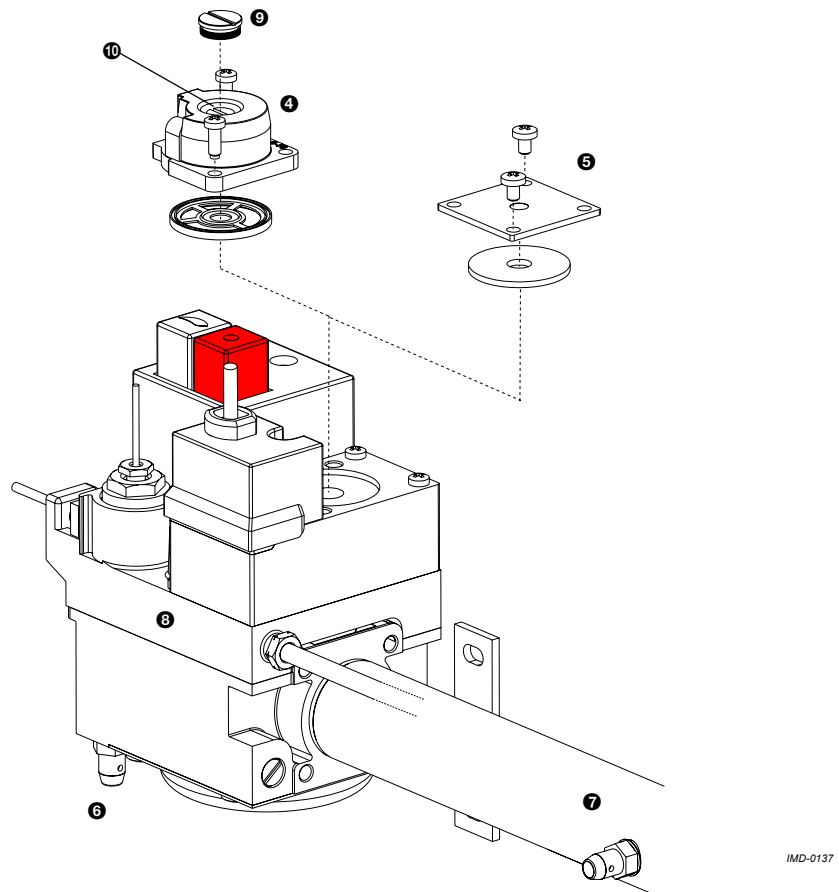

Figure 3.8 Converting the gas control
2. The supply pressure is checked using a test nipple ⑥ on the gas control (Figure 3.8). The manifold test nipple ⑦ is used for measuring the burner pressure. Sealing screws are located inside the test nipples. Loosen both sealing screws by a few turns. Do not completely undo them, as it may be awkward retightening them.
3. There are two test nipples on the gas control ⑦.
4. Open the gas supply and vent the gas supply line via supply pressure test nipple ⑥.
5. Connect a pressure gauge to the supply pressure test nipple ⑥ as soon as gas starts to flow from this nipple.